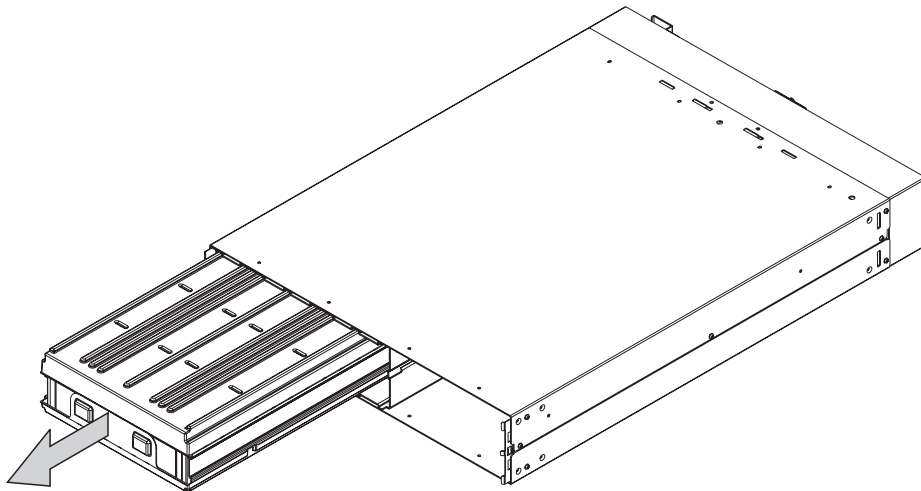

Figure 69. Removing the uninterruptible power supply 5125 battery
4. Remove the battery plate, which will then allow access to the battery (see Figure 69 on page 198).
**The battery weighs 20.4 kg (45 lb). Do not attempt to lift it by yourself. Ask another service representative for aid. (27)**
**To avoid any hazard from the rack tipping forward when boxes are installed or removed, observe all safety precautions for the rack into which you are installing or removing the device. (23)**
**Do not dispose of the battery in a fire. The battery might explode. Correct disposal of the battery is required. Refer to your local regulations for disposal requirements. (28)**